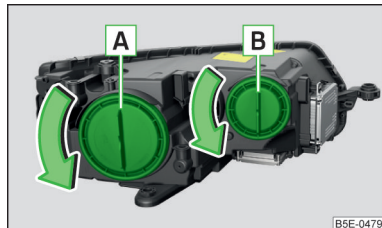

Fig. 219
Bulb arrangement » Fig. 219
- Turn the protective cap **A** » Fig. 219 on page 228 in direction of the arrow.
- Insert the protective cap **A** » Fig. 219 on page 228 and turn it opposite to the direction of the arrow.
- Turn the protective cap **B** » Fig. 219 on page 228 in direction of the arrow.
- Insert the protective cap **B** » Fig. 219 on page 228 and turn it in the direction opposite to the arrow.